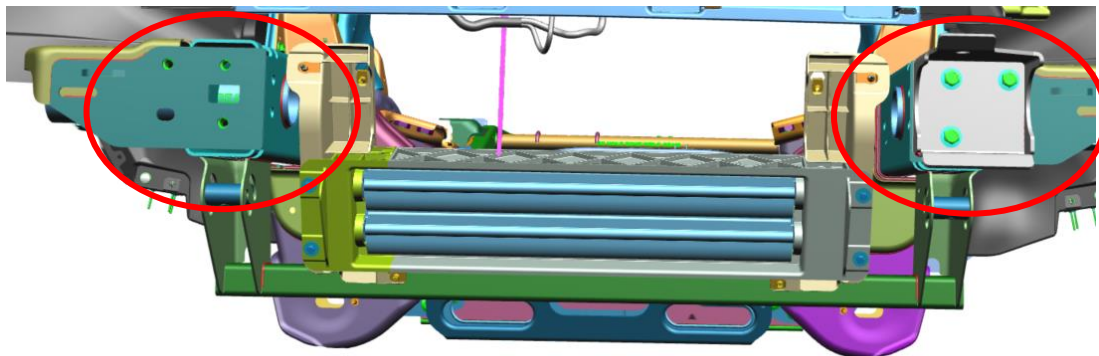

Figure 6 – Driver side Attached / Passenger side Un-Attached
- b. Using [6] M10 bolts (11588738), loosely install AEV frame brackets to frame horn of vehicle on each side – Fig. 6